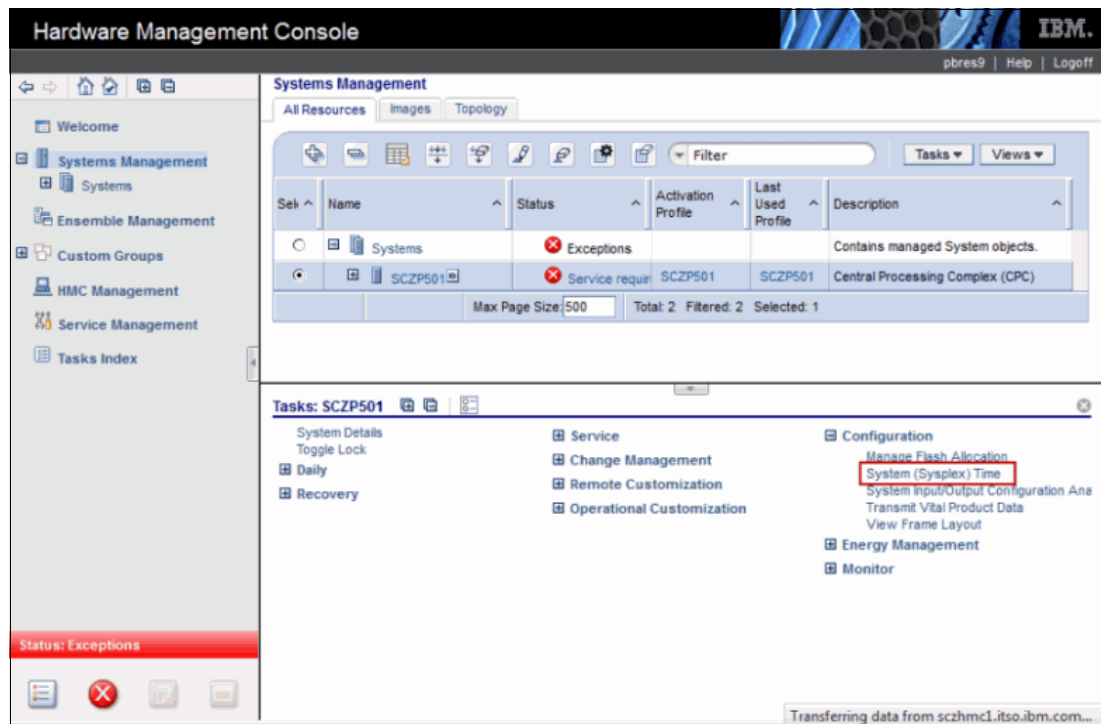

Figure 9-27 HMC: System (Sysplex) Time selection
1. In the HMC, select **System (Sysplex) Time**, under the Configuration task (Figure 9-27).